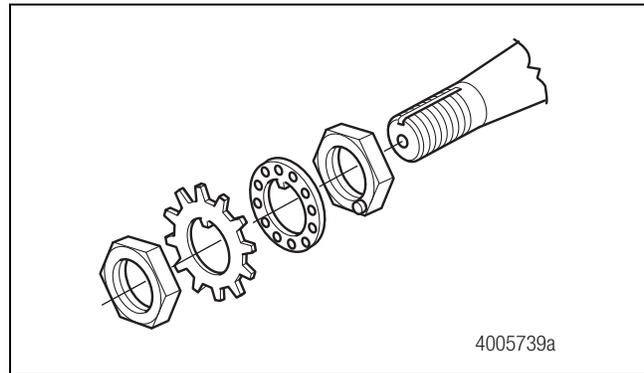

Figure 3.5
11. Remove the spindle nut system. Figure 3.5. Be careful when you remove the hub that you do not damage the outer bearing by dropping it on the floor.